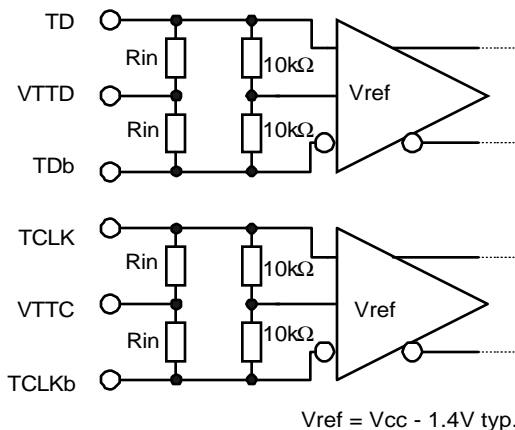

Figure 3 Data and Clock Input Interface
1. Termination current is not included. 2. Measured between each signal input and VTTD or VTTC. Refer to Figure 3.